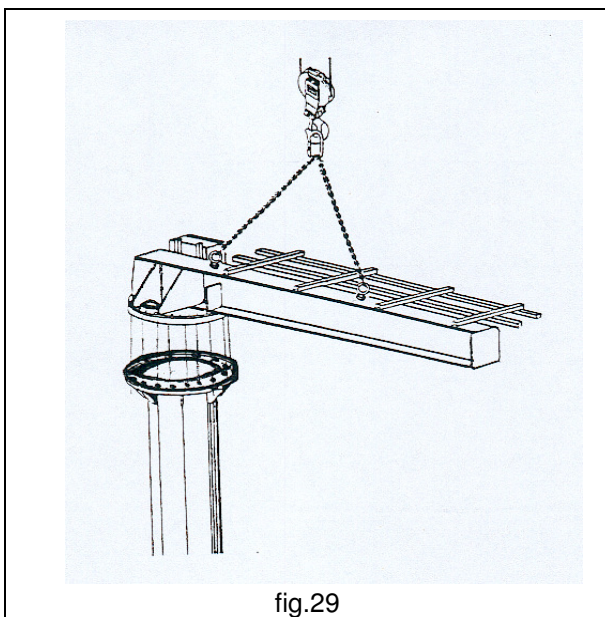

fig.29
4. Rest the thrust bearing on the flange welded on the column making coincide the holes between thrust bearing and plate. (fig.29)